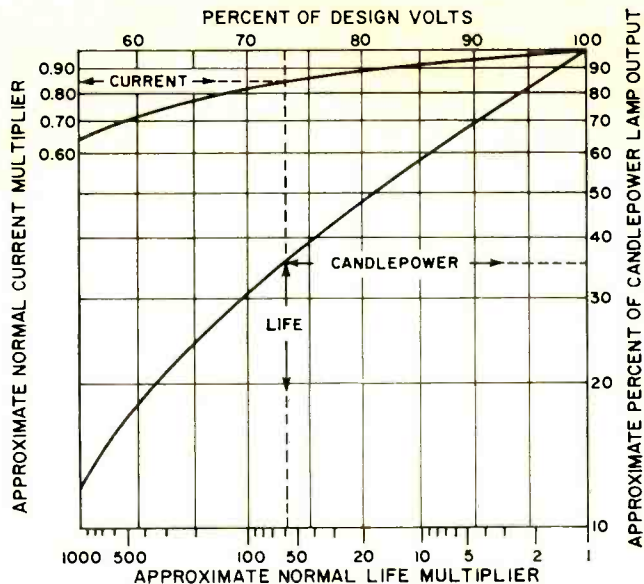

Fig. 1. Effects of lamp operation below its normal voltage.
5. As the applied voltage is decreased, light output and filament heat decrease. This results in greatly increased lamp life. Conversely, as voltage is increased beyond the design voltage, light output and filament heat increase while lamp life decreases significantly. See Figs. 1 and 2.